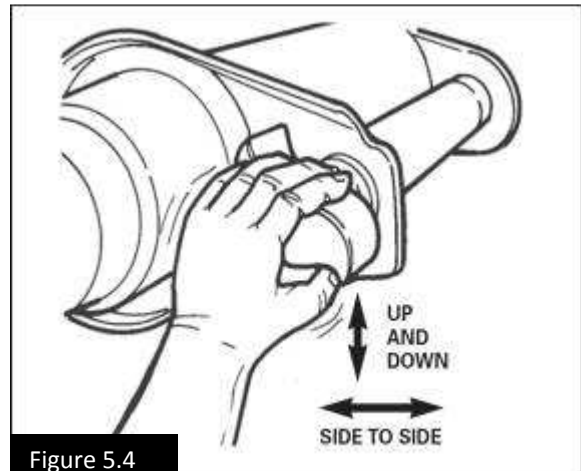

Figure 5.4
9. Check the up-and-down and side-to-side end play of the camshaft. If total movement is more than 0.030-inch (0.76 mm) in either direction, replace the bushings or camshaft as detailed in Section 12. Figure 5.4.